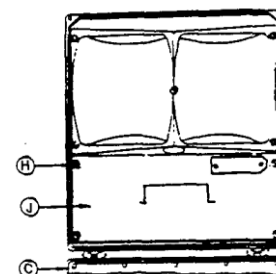

FIGURE 2
7. Replace panel (J) and screws (H). Securely tighten screws (H). See figure 2.
9. Close door frame (C). Tighten screw (A).